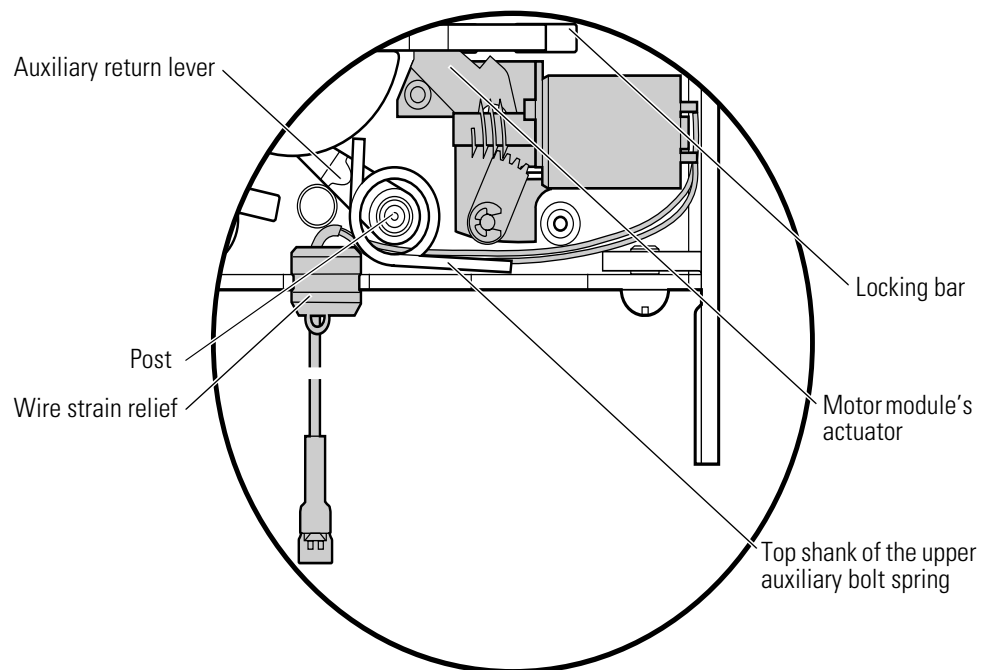

Figure 6.9 Removing and reinstalling the motor module
2. Rotate the locking bar and motor module. Remove the locking bar from the case. See Figure 6.9.